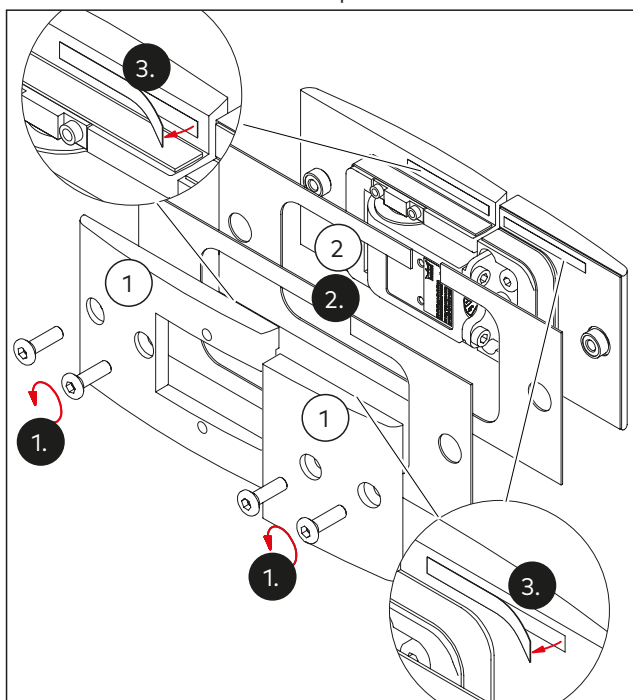

Fig. 60 Preparing the double action hinge
1. Disassemble the counter plates (Fig. 60/1).
2. Select the appropriate gaskets (Fig. 60/2) according to the glass thickness (see Table in Chapter 4).